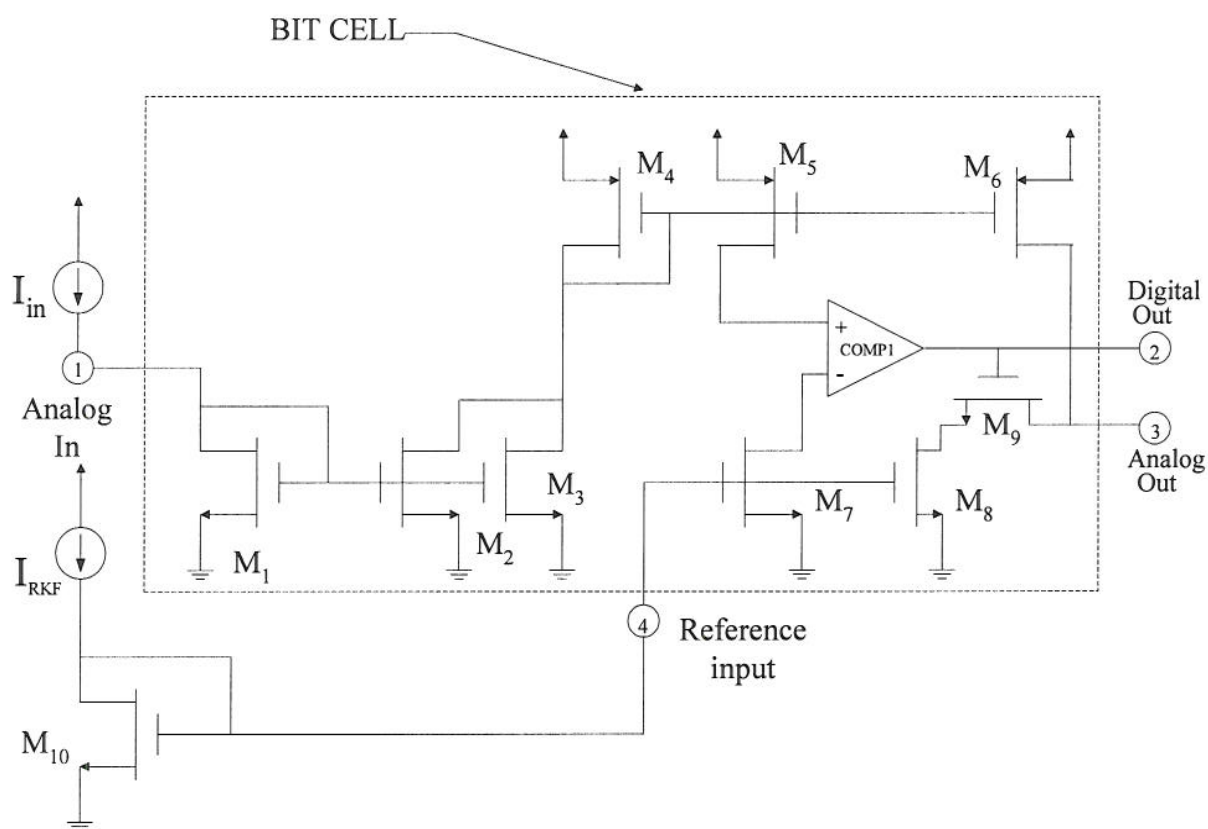

Figure 6
- (c) The circuit shown in Figure 6 is a single bit cell of a current-mode algorithmic analogue to digital converter. Briefly describe the operation of the cell and give reasons why this converter is particularly suitable for mixed analogue and digital VLSI.